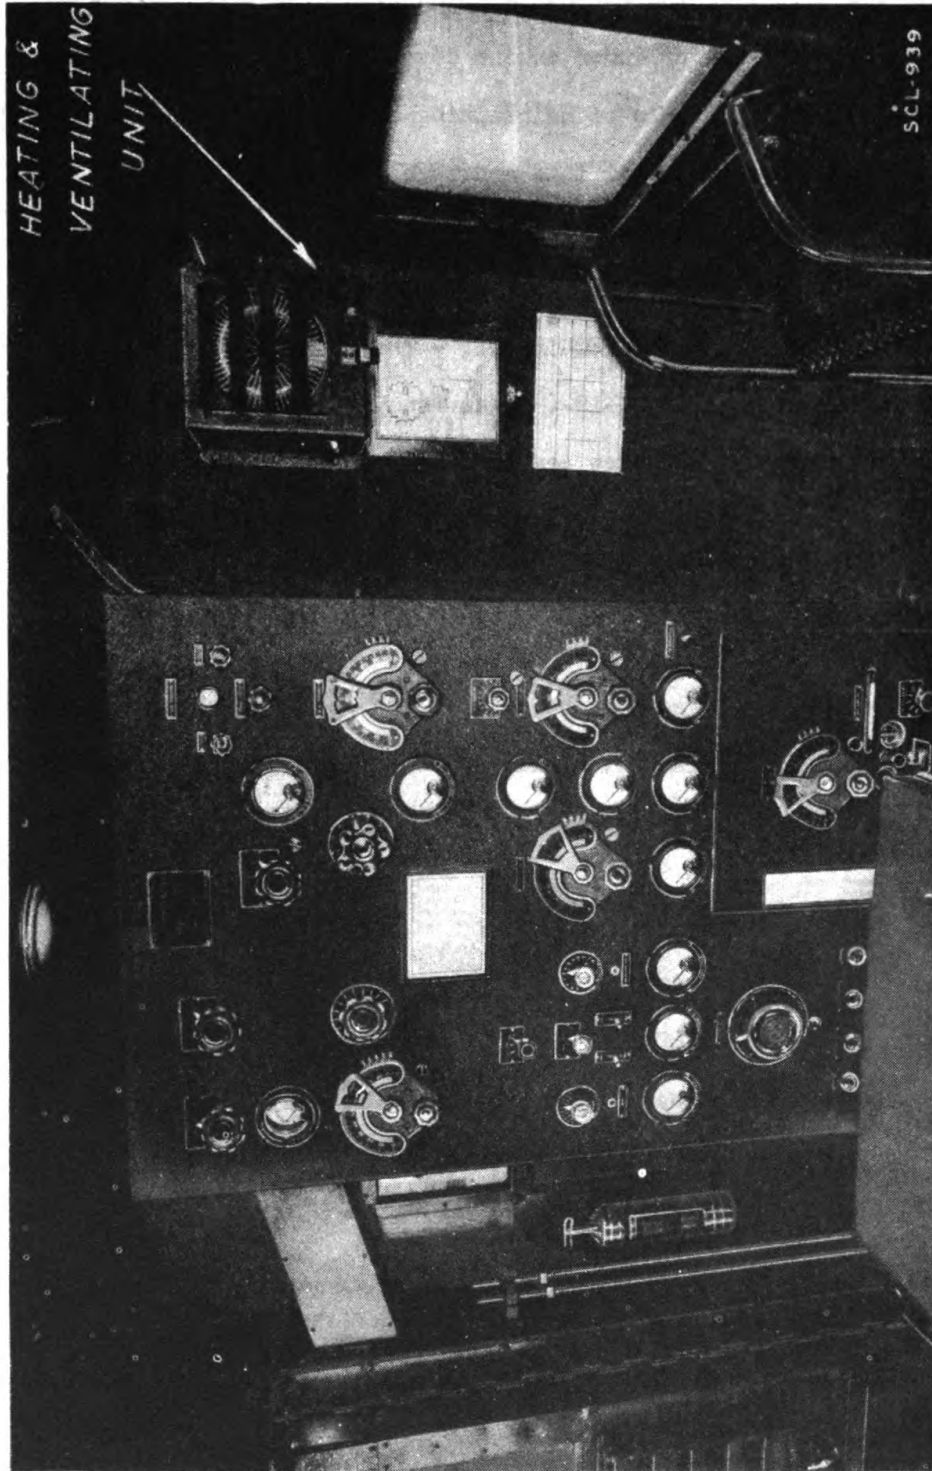

Figure 2. - View of the Radio Transmitter BC-325-(*) inside Truck K-18-(*).
14. RADIO TRANSMITTING EQUIPMENT. - The radio-transmitting equipment as installed in Truck K-18-(*) was manufactured by the Federal Telegraph Company, Newark, New Jersey. Full information on all components of the transmitting equipment is contained in TM 11-805. Figures 2, 3, and 4 are inside views of Truck K-18-(*), showing the equipment.